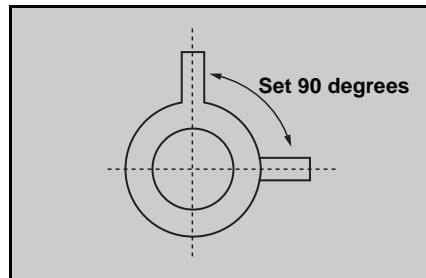

Figure 27. 4-pole magnet
4. Position the longer tab of the four-pole magnet to 90 degrees (uncorrected position). (See Figure 27).